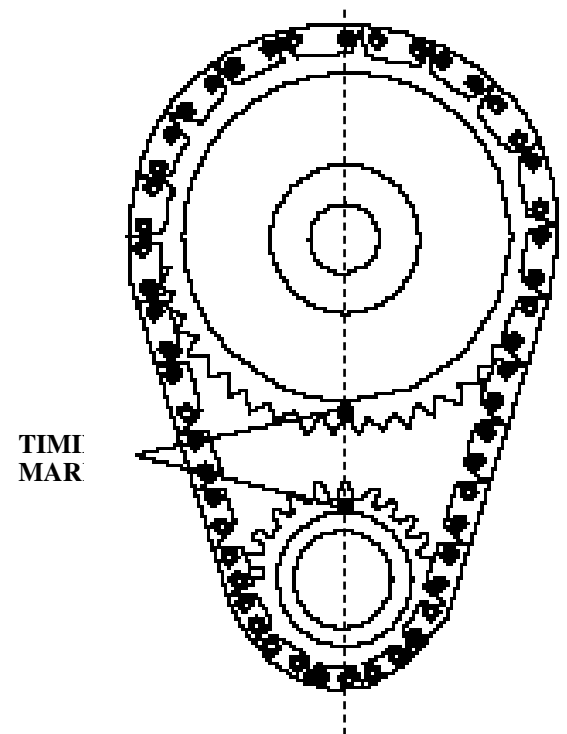

Figure 2- Timing Chain Sprocket Alignment
13. Rotate engine until timing marks are aligned as shown in Figure 2.
- Install camshaft with timing marks lined up as recommended by factory specifications. See Figure 2.
- After the cam is installed and timed correctly (see Figure 2), it will be necessary to check each pushrod for correct lifter preload.